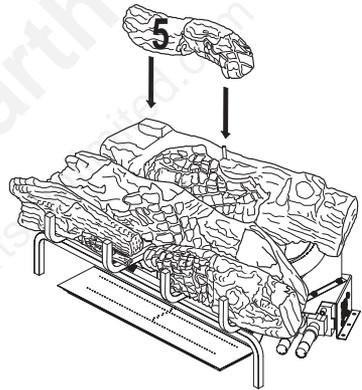

Figure 39 - Installing Log # 5
- Place the left top back log (#5) on top of the rear log. Match the rectangular projection on top of the left side of the rear log with the rectangular hole on the bottom of the left top back log. Match the metal pin on the top of the rear log with the round hole in the bottom of the left top back log. See Figure 39.